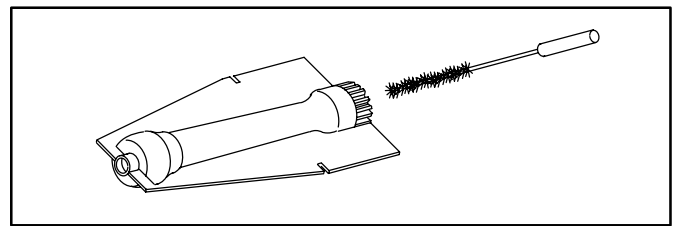

FIGURE 20
- 3 - Clean holes in burner head (retention ring) with a wire brush. See figure 20.